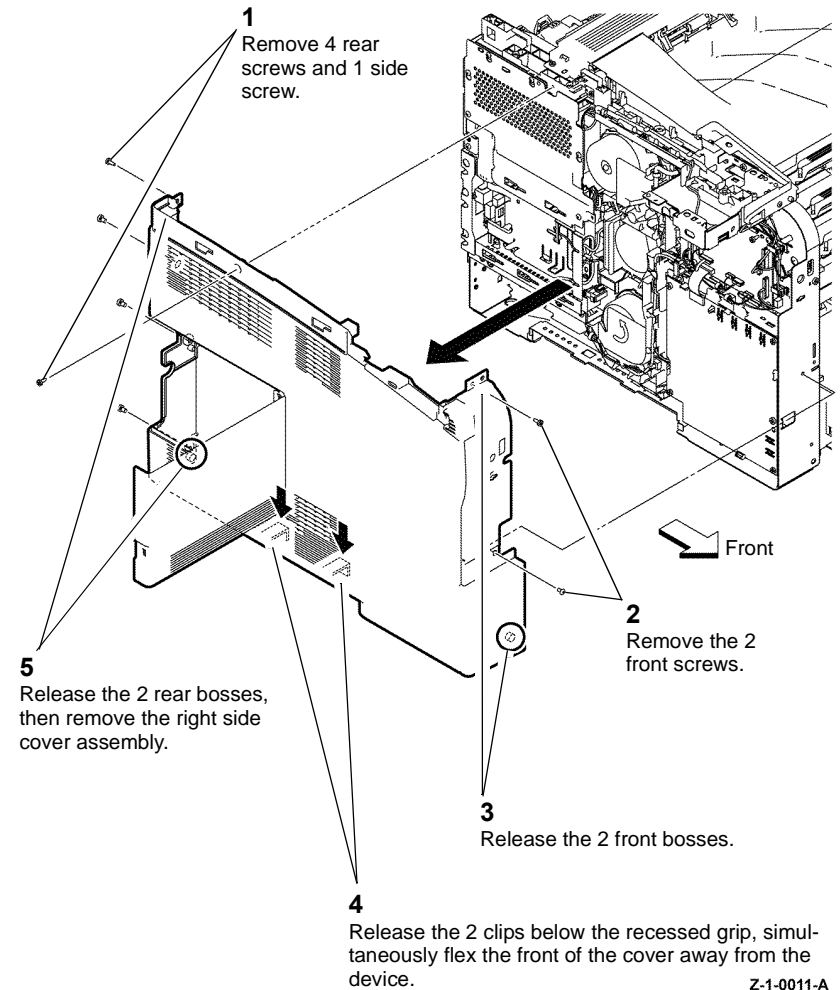

Figure 2 Remove the left side cover assembly C400
4. Remove the left side cover assembly, Figure 2.